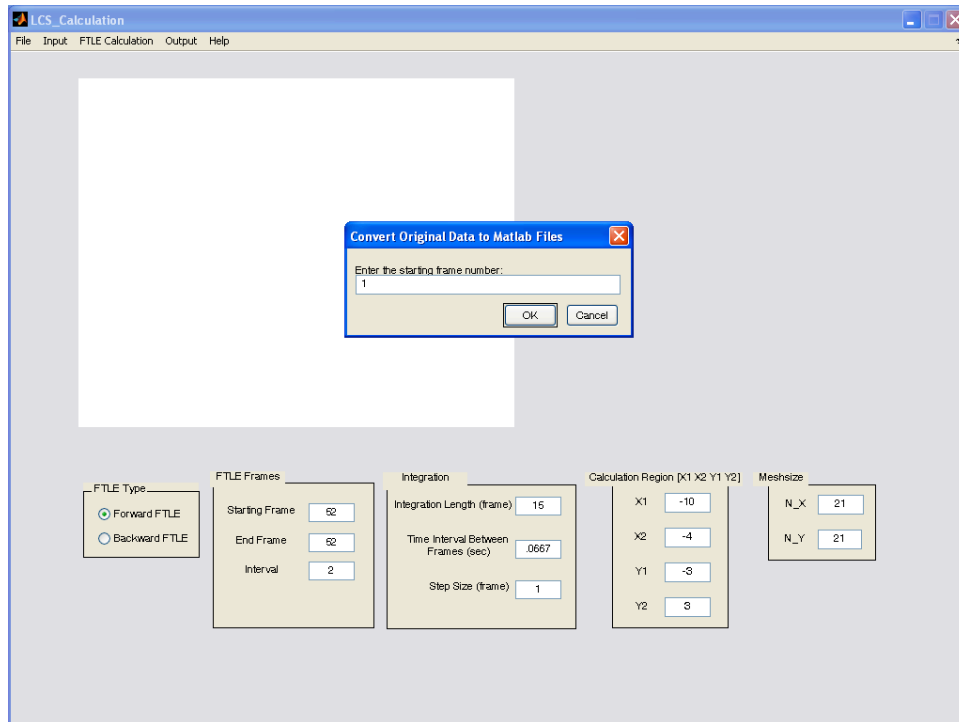

Figure 2.2
2.2 Since the software runs in Matlab, all velocity files need to be converted into Matlab .mat files to reduce computational time (velocity files are repeatedly read in the computation). Select from menu 'Input -> Convert to MAT files'. A 'Browse for Folder' dialogue box appears. Select the folder in which you want these .mat files to be saved. After clicking 'OK', a new dialogue box appears in which users need to enter the starting frame number. It is suggested to use the default value '1'. Then click 'OK' (Fig. 2.2).